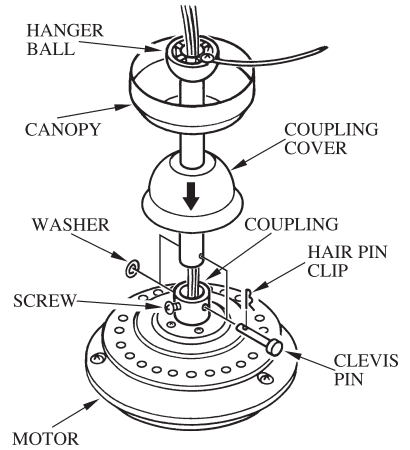

FIG.1
1. Insert the downrod through the center opening in the canopy and route the motor leads through the hanger ball/downrod assembly. Align the clevis pin holes in the downrod with the holes in the motor coupling. The clevis pin must pass through the holes in the motor coupling and the downrod. Place the washer onto the clevis pin and install the hairpin clip making sure to push straight leg of the hairpin clip through the hole near hanger ball to make sure the clevis pin is properly installed (see Fig.1)